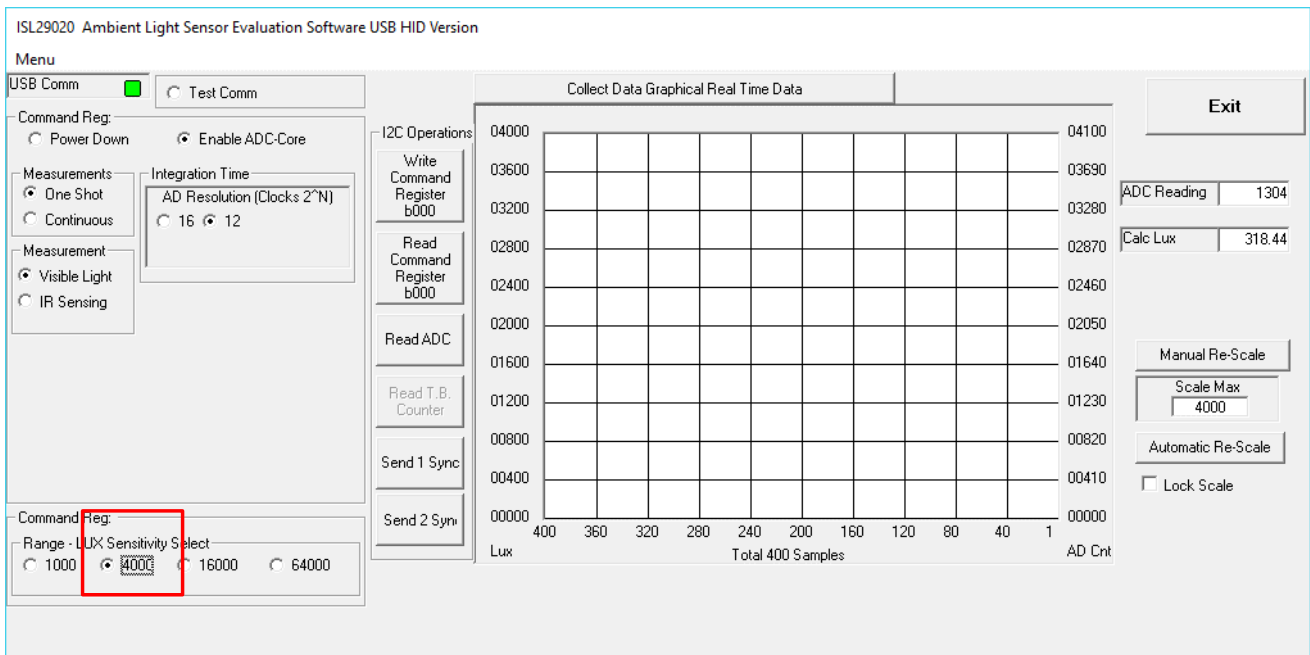
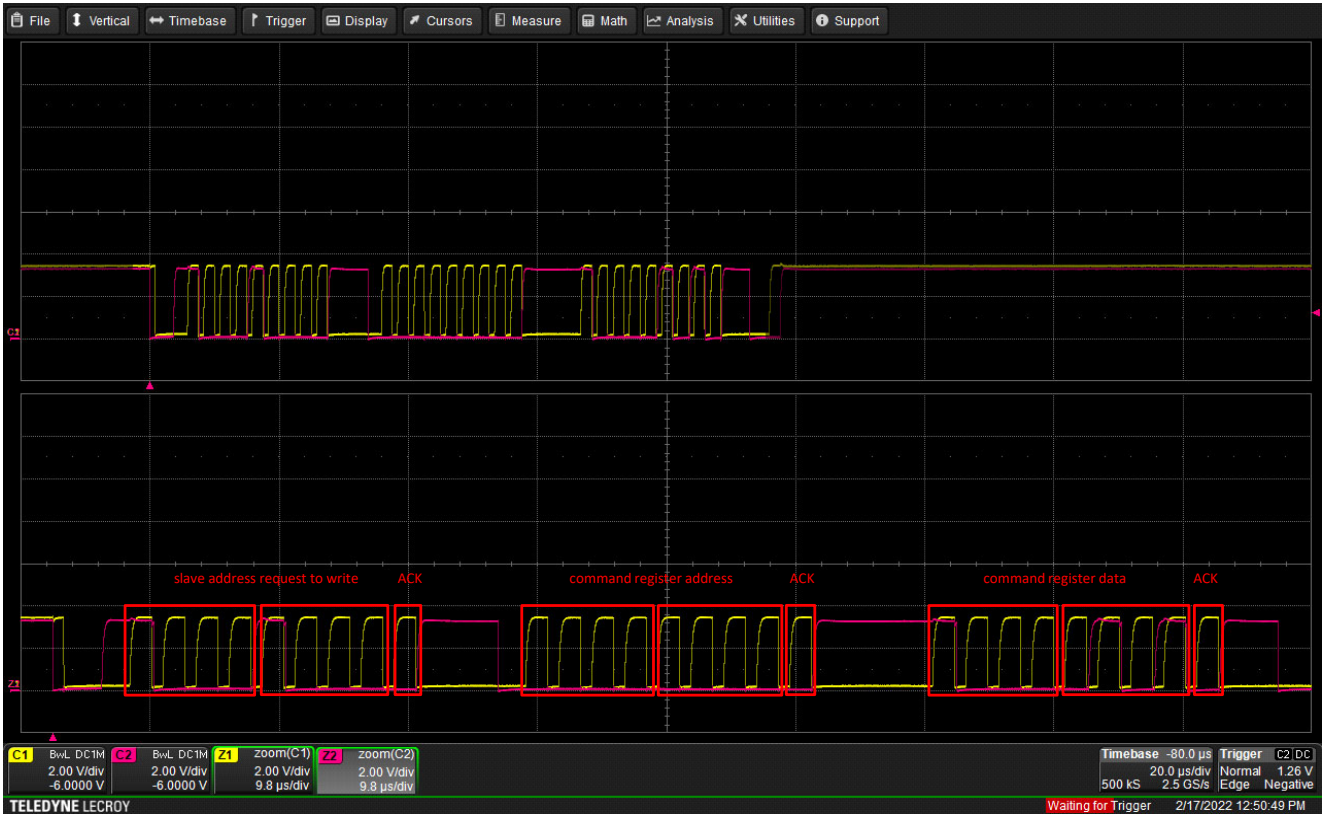

Figure 18. GUI after Range is changed to 4000
Figure 19. I²C after Range is changed to 4000
The command register is accessed as shown in Figure 18. With the same oscilloscope trigger set up, click on the **4000** radio button as shown in this example and the GUI displayed in Figure 18 and the oscilloscope traces shown in Figure 19 appear.
- All of these settings are indicated on the GUI, Figure 18.